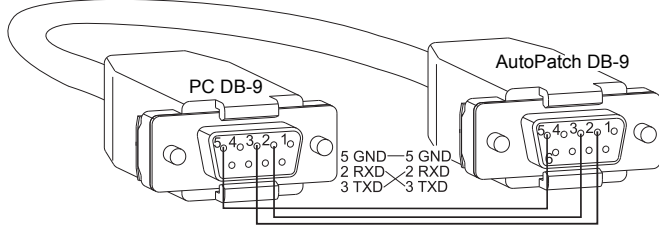

FIG. 6 RS-232 null modem cable pin diagram
2. Plug the null modem cable into the serial port on the enclosure (FIG. 6 and 7).